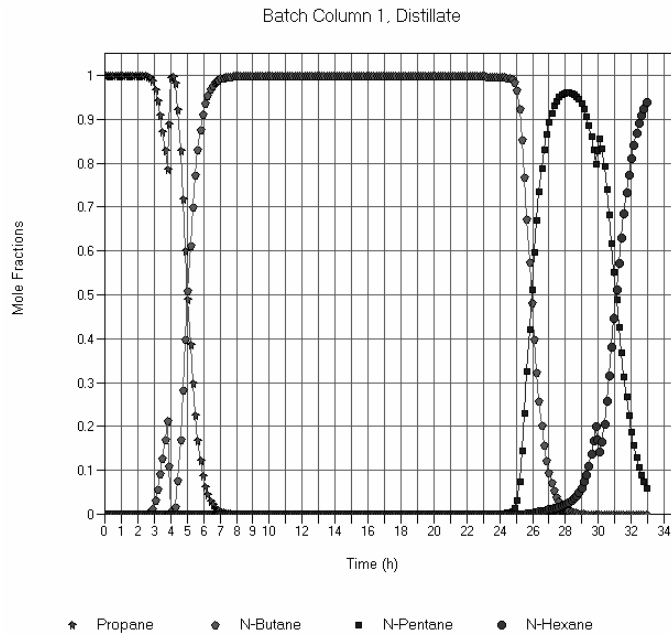

Figure 11-46: Composite plot showing composition of distillate over time
4. Click **OK** to view the composite plot, which should resemble Figure 11-46.